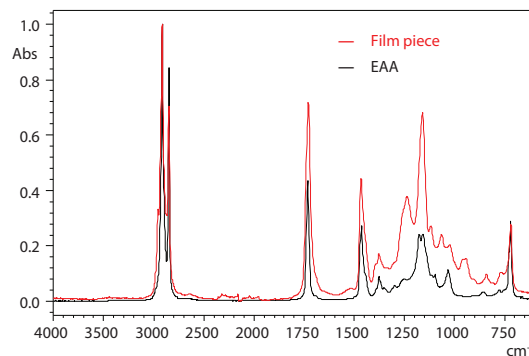
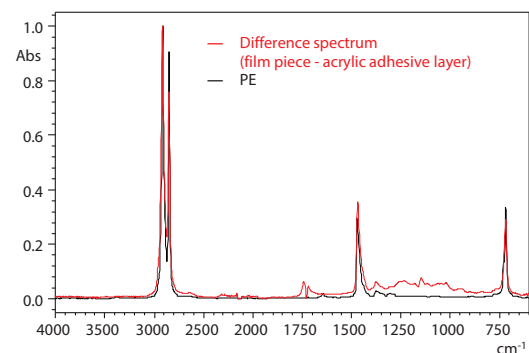

Fig. 4 ATR Spectrum of Film Piece and Search Result: FTIR
Fig. 5 Difference Spectrum and Search Result: FTIR
Fig. 4 shows the ATR spectrum measured by holding a piece of polyethylene (PE) film with a diameter of about 0.3 mm using the EDXIR-Holder and the library search result. The top search result was ethylene acrylic acid (EAA), which is incorrect. Then we calculated the difference spectrum between the film piece and acrylic adhesive layer and performed a library search on the difference spectrum. As shown in Fig. 5, the search result was PE, which is the material of the film piece. This demonstrates that care must be taken when analyzing minute samples that are easily affected by the acrylic adhesive layer.